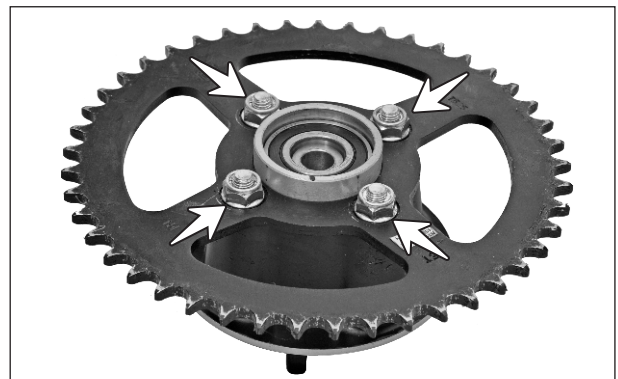

Fig. 6.90
- Remove the flanged 'U' nut (M10 - 4 nos.). (Fig. 6.90)